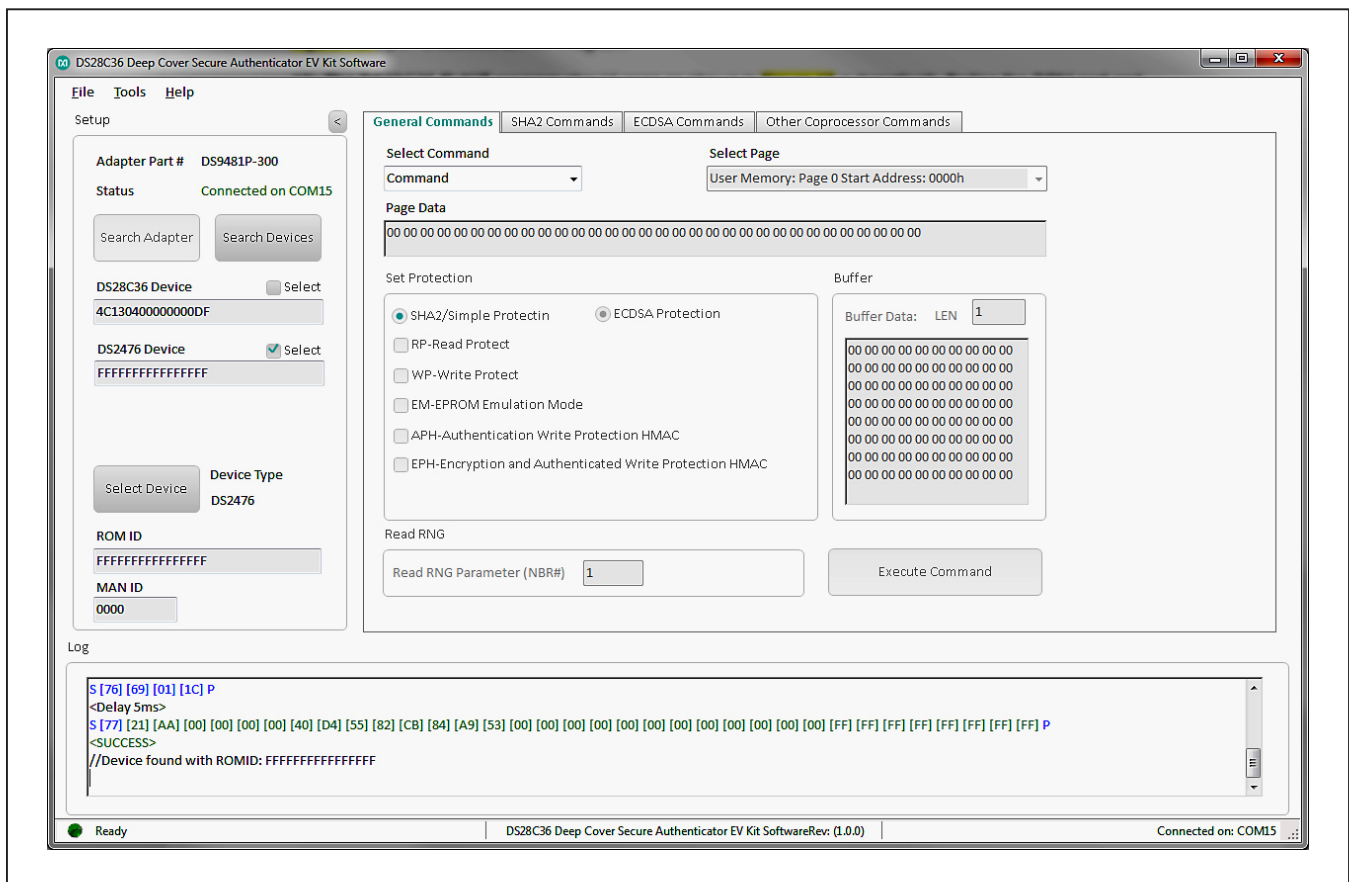

Figure 13. DS28E36 EVKIT Developer Software (Note: The light version is similar, but includes fewer features)
- 12) The DS28E36 EVKIT program opens automatically (Figure 13), finding the COM port and the DS28E36/DS2476.
The DS28E36 evaluation program user interface (Figure 13) has four tabs, **General Commands**, **SHA2 Commands**, **ECDSA Commands**, and **Other Coprocessor Commands**. The **Setup** section is used to make the device selections that apply to the **General Commands**, **SHA2 Commands**, **ECDSA Commands**, and **Other Coprocessor Commands** tabs. Here is a summary of the function for each tab of the full developer software: